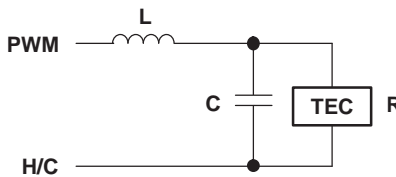

Figure 22. Output Filter
The transfer function for a second-order low-pass filter (Figure 22) is shown in Equation 5:
For the DRV593 and DRV594, the differential output switching frequency is typically selected to be 500 kHz. The resonant frequency for the filter is typically chosen to be at least one order of magnitude lower than the switching frequency. Equation 5 may then be simplified to give the following magnitude Equation 6. These equations assume the use of the filter in Figure 22.
- Changed figure cross reference from "Figure 17 and Figure 18" to "Figure 22" in the "LC FILTER....." section. .... 14